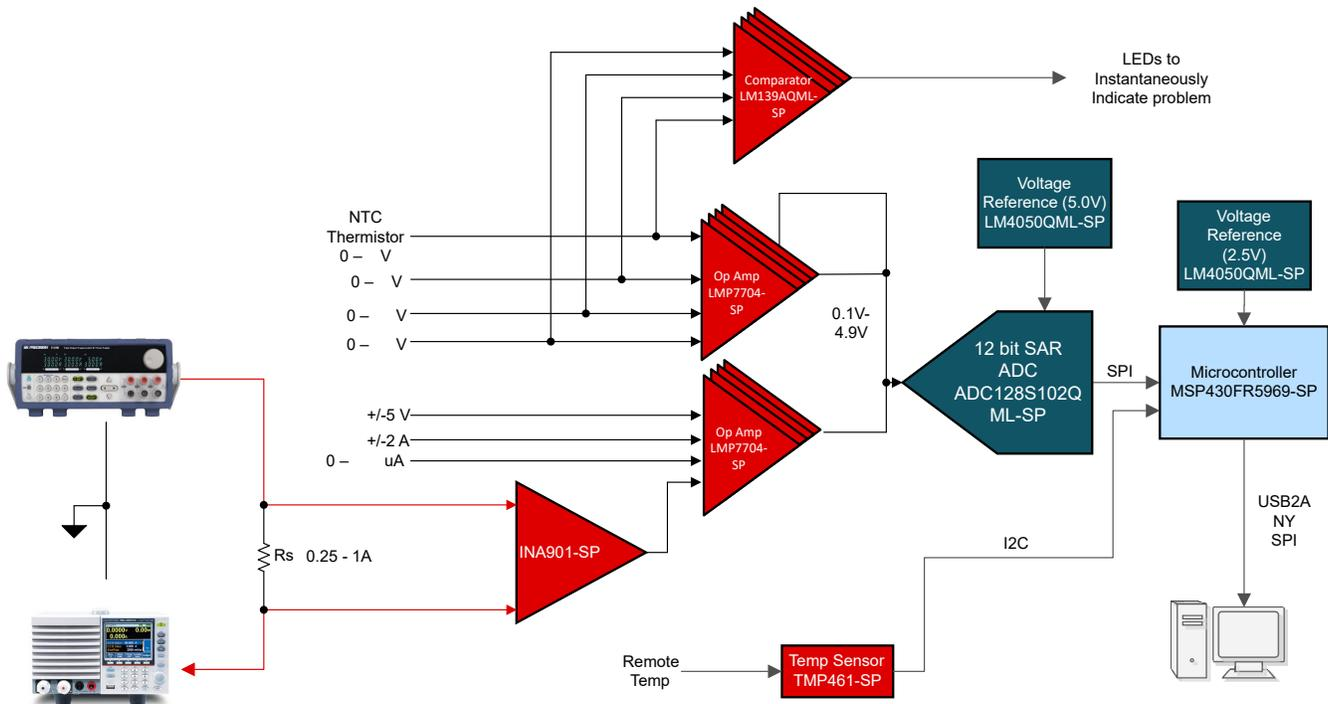

Figure 3-3. Current Monitor Test Setup
1. Connect the power supply to the desired terminal block as shown in Figure 3-3.